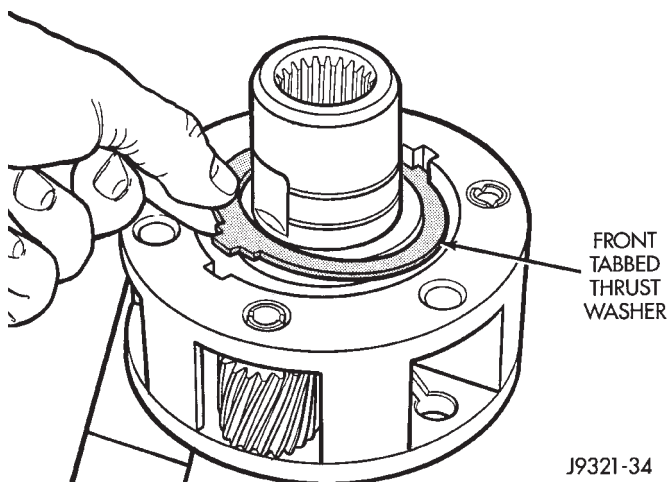

Fig. 34 Removing Front Tabbed Thrust Washer
(3) Remove front tabbed thrust washer (Fig. 34).